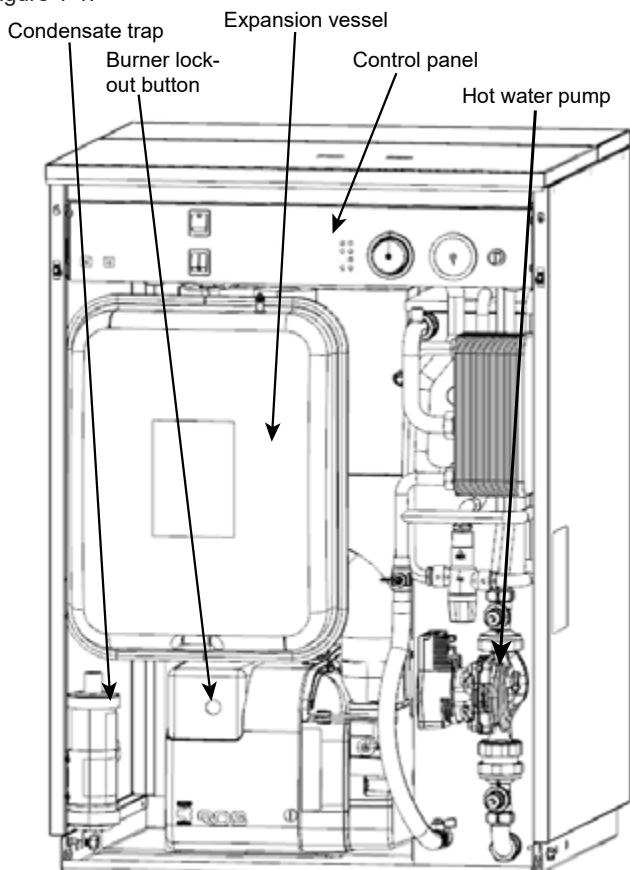

Figure 1-1: Boiler components
To gain access to the boiler controls, pull the front panel forward at the top to disengage the fixing clips, then lift it up and off the boiler, to reveal the boiler components and controls, as shown in Figure 1-1.
5. Check if the burner 'Lock-Out' reset button on the burner body (refer to Figure 1-1 for location) is lit.
Refer to Figure 1-1 for the location of the control panel within the boiler casing and Figure 2-1 for the details of the control panel.